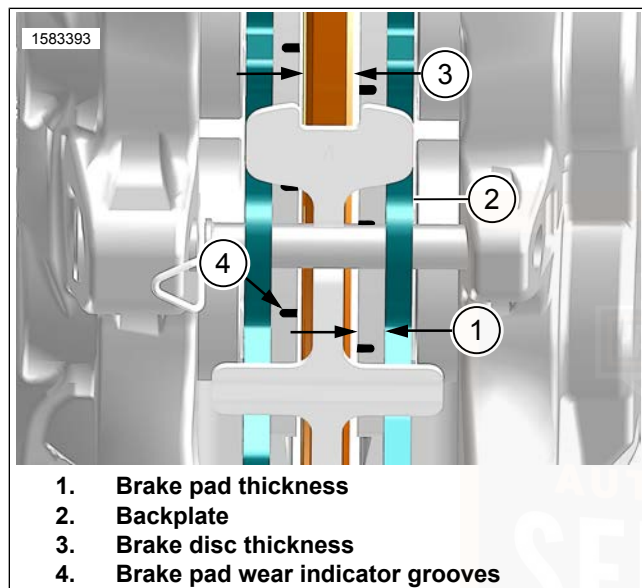

Figure 60. Brake Thickness (front shown)
2. See Figure 60. Measure the thickness of the brake pad friction material.